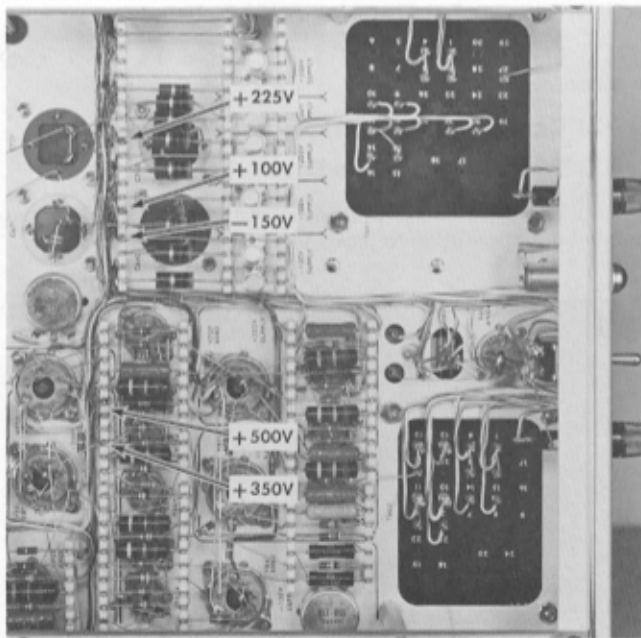
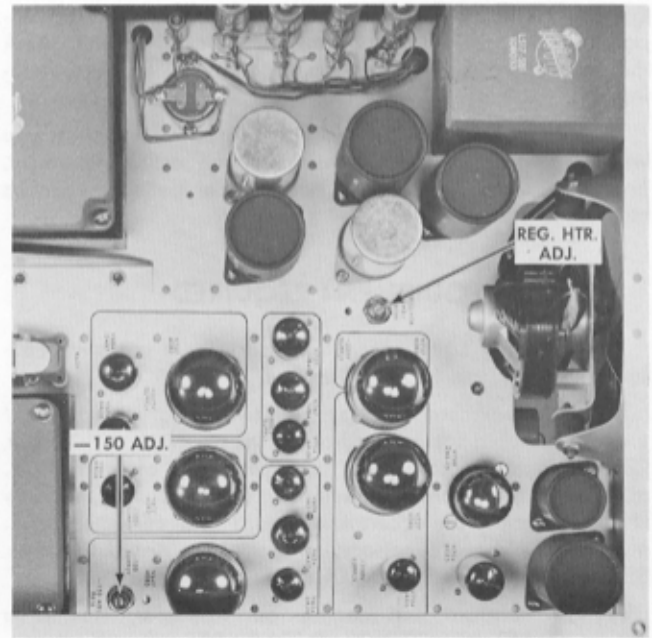

Fig. 7-2. Bottom view of the power supply showing the location of the test points.
Fig. 7-3. Top view of the power supply unit showing location of the power supply unit adjustments.
Measure the output voltage of the -150 v, $+100$ v, $+225$ v, $+350$ v and $+500$ v supplies at the points indicated on the Power Supply Unit (see Figure 7-2). Be sure your meter is accurate (see Equipment Required, (1)). The output voltage of the -150 v supply must be between -147 v and -153 v, and the other regulated supplies must be within 2% of their rated values. You should be able to set the -150 ADJ. control (see Power Supply Unit, Figure 7-3) so that all of these voltages are within the specified tolerance. Bear in mind that the calibration of the entire instrument is effected by changes in the power supply voltages. Don't adjust the -150 v unless one or more of the supplies is actually out of tolerance.